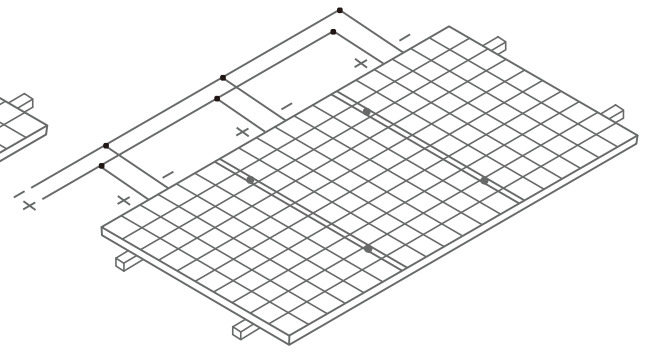

Figure 5 Connection in parallel
- When connected in parallel, the current output is equal to the sum of each string's current (as shown in Figure 5). Fuse is necessary for each module string. Take reference to the local regulation. Recommended maximum parallel Modules configurations: Fuse rating/ (1.3\* short-circuit current).